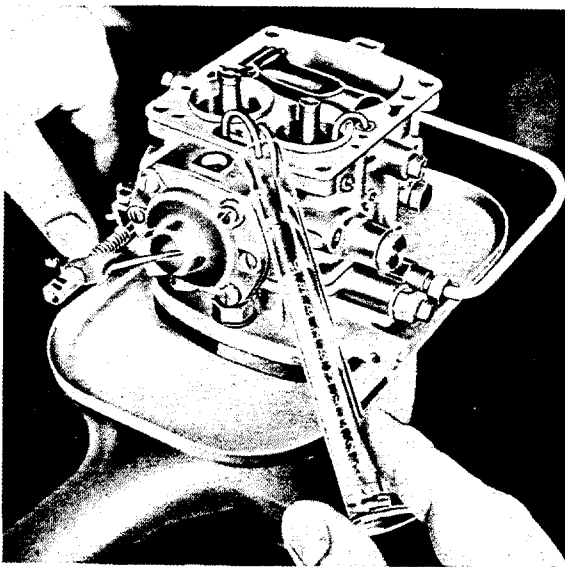

Fig. M 31/17
17. Measure injection volume by making five injecting measurements. During injection move accelerator linkage steadily and evenly to full load position. Release linkage only after the end of the injection process (Fig. M 31/17).